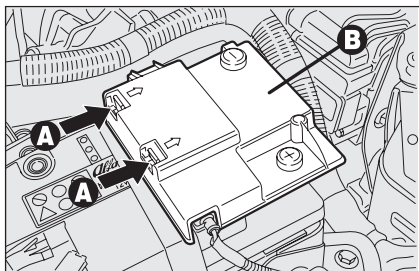

fig. 54
- operate the retaining clips **A-fig. 54** and remove the protection cover **B**;